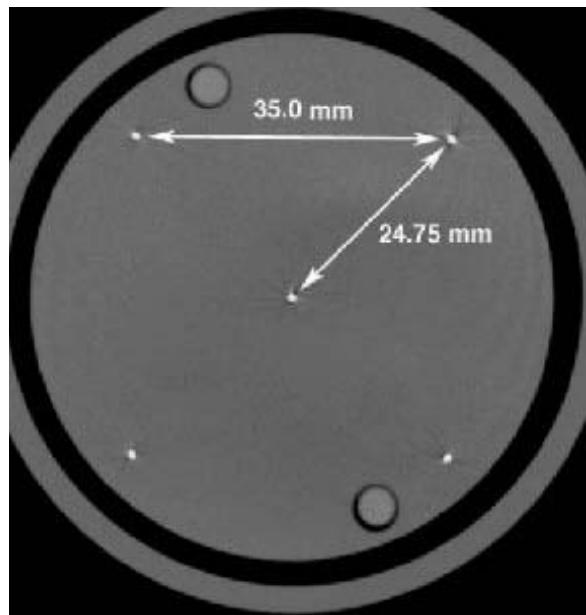

Figure 7-110
- 10.) In MicroView, click the fourth button from the left as shown by the arrow in Figure 7-106 and "drag" the viewing plane in the image with the mouse to find the BBs (as they appear in Figure 7-110).
- 4.) Multiply these distances by Voxel size (in mm) and compare these values to the ideal ones shown in Figure 7-110 using:
* These distances should be the values shown in Figure 7-110 $\pm 1\%$.